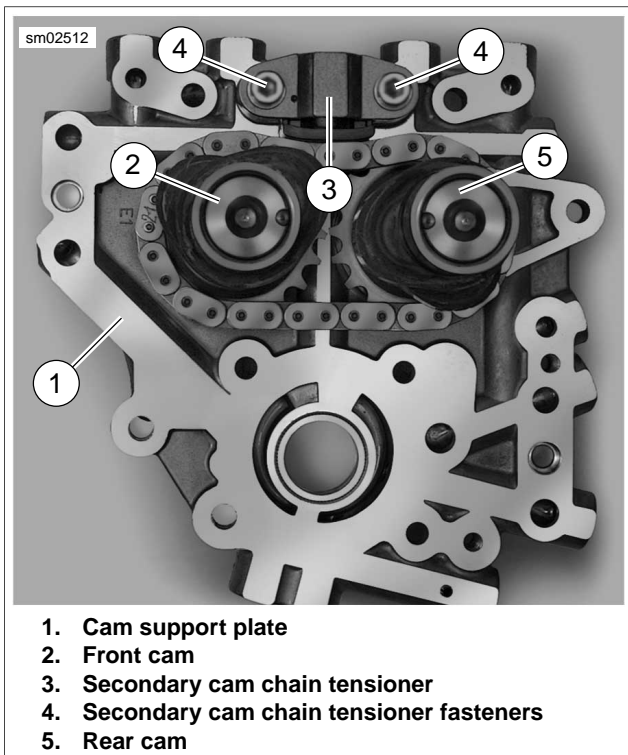

Figure 3-114. Camshafts
1. See Figure 3-114. Remove screws (4) and remove secondary cam chain tensioner (3).